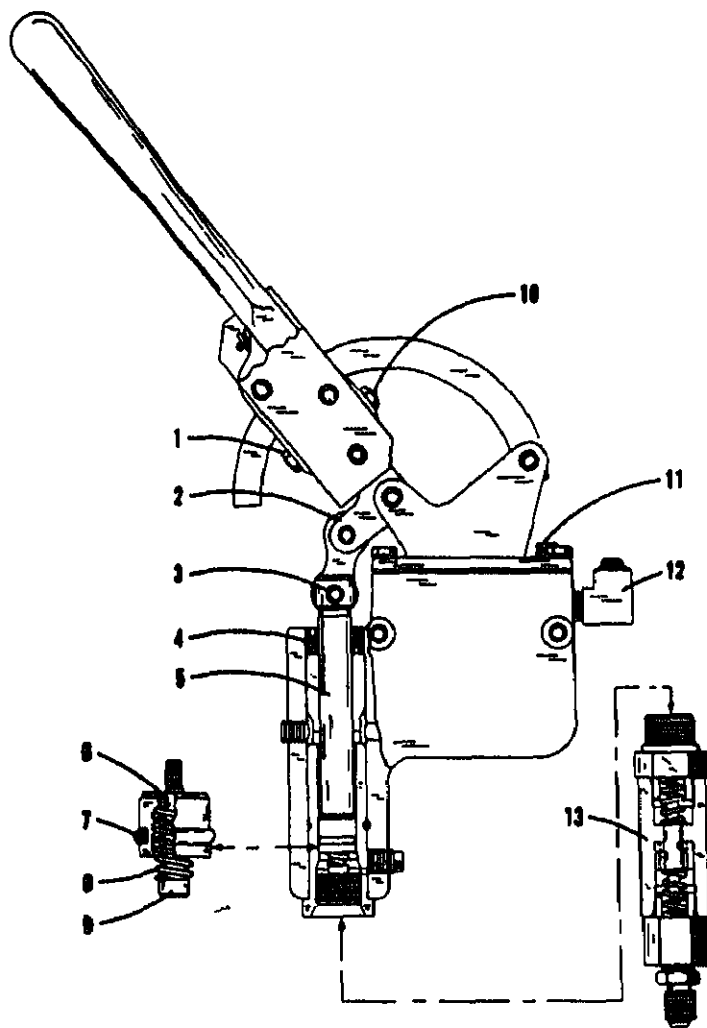

FIG. 11-7
The transmitter serves as a reservoir for storage of hydraulic fluid and incorporates a piston assembly which meters hydraulic pressure to actuate the fuel pump rack through a receiver, or "slave cylinder", mounted on the Hammer. Operating pressure in the system is variable controlled by the friction type hand lever, which is connected with the piston assembly, Fig. 11-7 mechanical linkage. The transmitter assures a wide range of control of the fuel delivered to the Hammer since the positive friction lever may be set at any desired operating position.
By moving the control lever to the "on" position, a column of oil is moved through the double relief valve through the hose to the receiver. As the receiver piston moves out of its cylinder, Fig. 11-7, it moves the rack on the fuel pump to the "on" position.
The function of the double relief valve Fig. 11-7 is to keep the control hose full of oil, making it unnecessary to pump up pressure after the transmitter lever is returned to the "off" position. No adjustment of the relief valve is provided. The pre-
- (b) Open breather cap, Fig. 11-7, located on top of transmitter. (Breather cap must be opened before operating and left open during operation). With transmitter lever in "full on" position, fill reservoir through elbow fitting located on side of transmitter, until oil is visible at top of fitting.
- (b) Remove double relief valve Fig. 11-7 which is threaded into transmitter housing.
- (a) Back off setscrew, Fig. 11-7, 1/4" from linkage.
- (b) Turn setscrew, Fig. 11-7, in until hand lever does not lock when moved to the "on" position. Then back off on setscrew until lever does just lock when moved to the "on" position.
- (c) With hand lever in the "on" position, turn setscrew Fig. 11-7, until it contacts linkage. Then back off on setscrew 1-1/2 to 2 turns.